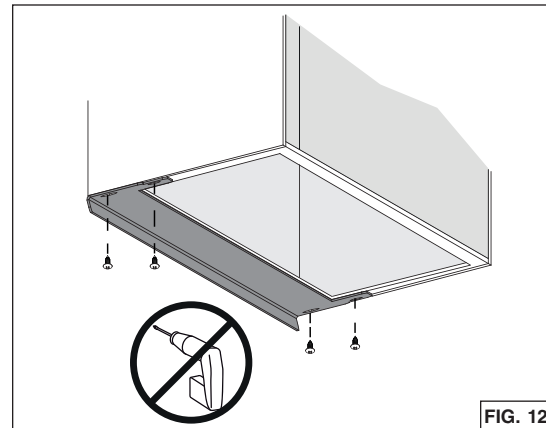

FIG. 12
8. There are 7 different sizes of optional fillers (sold separately) designed to fit up to 15-in. depth cabinets (for BBN1243SS unit: HADTBN24, for BBN1303SS: HADTBN30). Choose the filler that fits better to cover the back bottom edge of the cabinet. Use 4 no. 6 x 1/2" truss head wood screws (included in the optional kit) to mount it (FIG. 12).